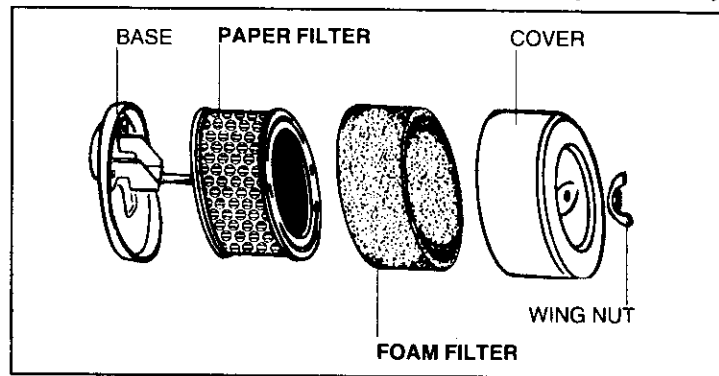

Figure 4
### 3 AIR CLEANER (see Figure 4):
**A. TO SERVICE FILTER(S) (see Figure 4):**